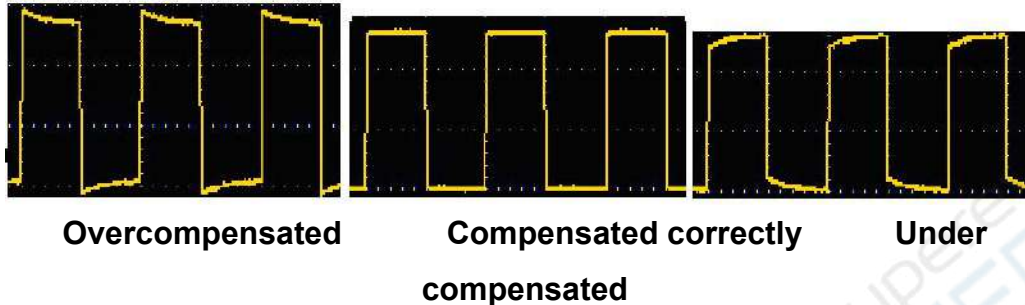
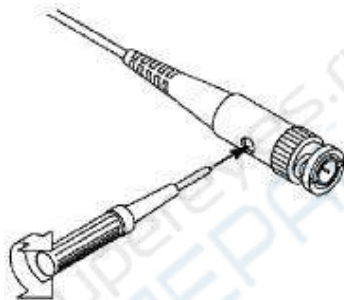

Figure 3-5 Displayed Waveforms of the Probe Compensation
Figure 3-6 Adjust Probe
2. Check the displayed waveforms and regulate the probe till a correct compensation is achieved (see Figure 3-5 and Figure 3-6).